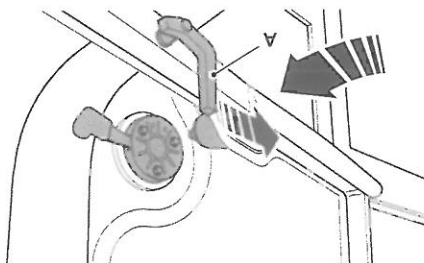

Figure 34.
- To close the upper door section: Refer to Figure 34.